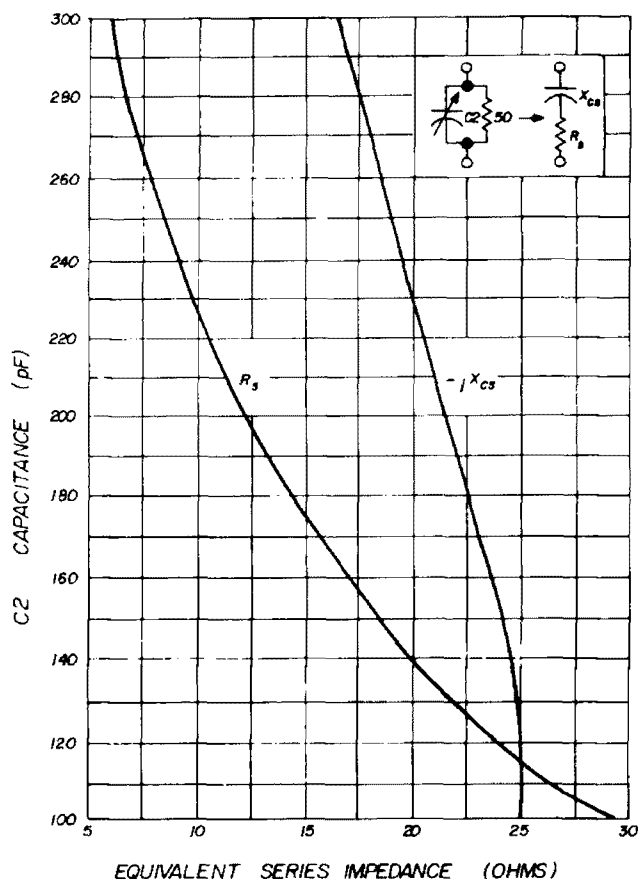

fig. 10. Graph for converting pi network parallel impedance to equivalent series impedance. (Capacitor C2 in parallel with 50-ohm load at 28 MHz.)
7. Knowing R_s , the corresponding X_{cs} portion of the series equivalent load impedance can be selected from fig. 10. This graph is calculated for *only* a 50-ohm antenna at 28 MHz.